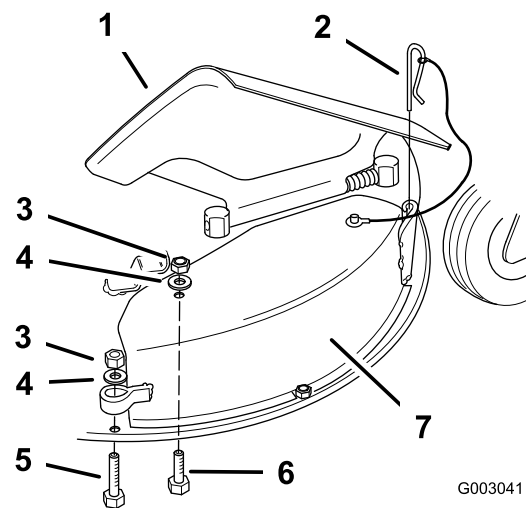

Figure 56
4. Raise the grass deflector and remove the chute pin on the front of the discharge cover (Figure 56).
5. Remove the locknut, flat washer, and bolt (5/16 x 1-1/4 inches) holding the top of the discharge cover to the top of the mower (Figure 56).
6. Remove the locknut, flat washer, and bolt (5/16 x 2-1/4 inches) holding the loop on the rear of the discharge cover to the deck ring (Figure 56).
7. Remove the discharge cover from the mower (Figure 56).